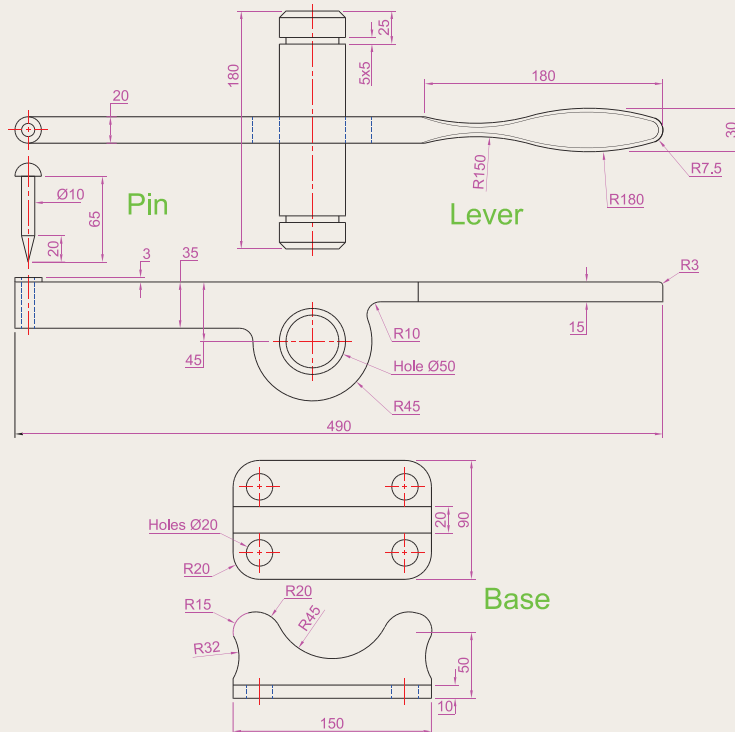

Fig. 17.38 Exercise 4 – details of shapes and sizes
4. A point marking device is shown in two two-view projections (Fig. 17.38). The device is composed of three parts – a base, an arm and a pin. Construct a 3D model of the assembled device and add